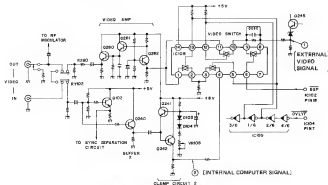

Fig. 13-53 Video switching circuit
### 13. 17 Video Switching Circuit (see Fig. 13-53)
To match the pedestal level of the computer picture signal processed by DC coupling (the level at point ① in Fig. 13-53) with the pedestal level of an external video signal, the DC level (determined by the Q241/Q242 clamp circuit) of that external video signal is adjusted by a video level adjustment control (VR105) after the signal has been passed through the Q240 buffer (the adjusted level being the level at point ② in Fig. 13-53 (see Photo, 13-21).
The video amplifier (Q282/Q281/Q280) is a current input type of amplifier which amplifies the signal switched from the video switching circuit to obtain a 2Vp-p output at the VIDEO OUT terminal via R280 (see Fig. 13-53).